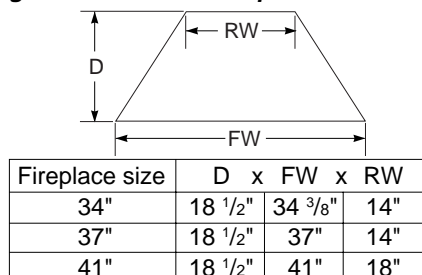

Figure 3 - Fireplace Bottom Dimensions
4. If your fireplace is to be installed directly on carpeting, vinyl tile, or any combustible material other than wood, it must be installed on a metal or wood panel extending the full width and depth of the fireplace. See Figure 3.